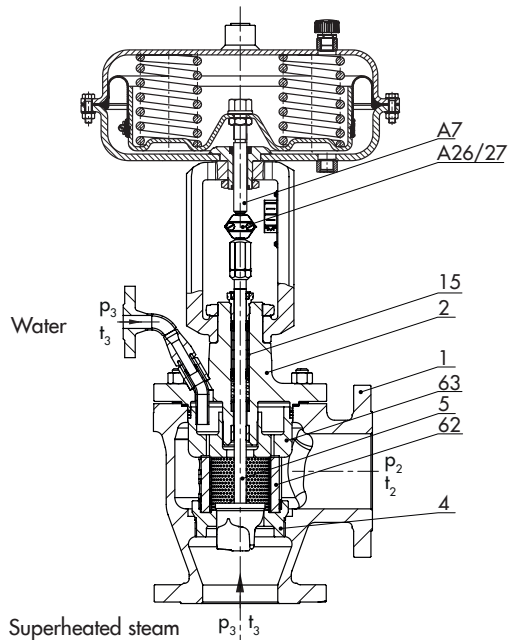
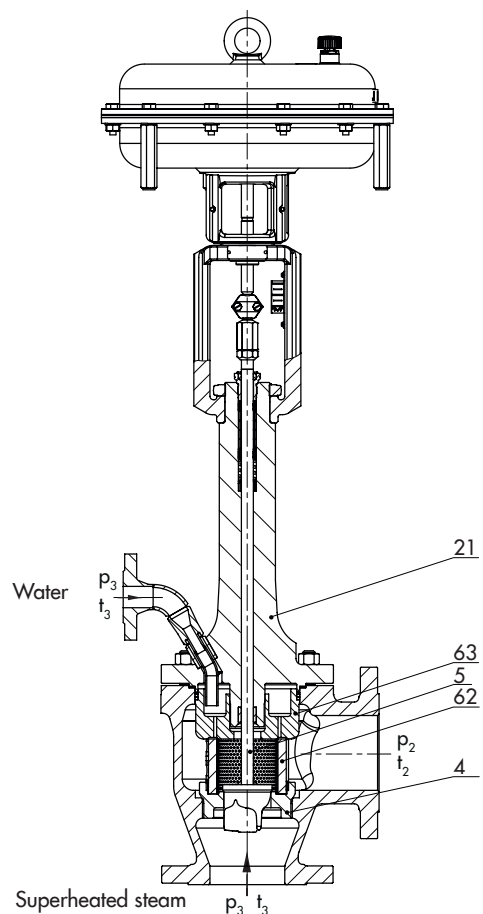

Fig. 3: Type 3286 Steam Conditioning Valve with Type 3271 Pneumatic Actuator
Fig. 4: Type 3286 Steam Conditioning Valve with insulating section and Type 3277 Pneumatic Actuator
**Note:** Fig. 3 and Fig. 4 show configuration examples.
### Legend for Fig. 3 and Fig. 4